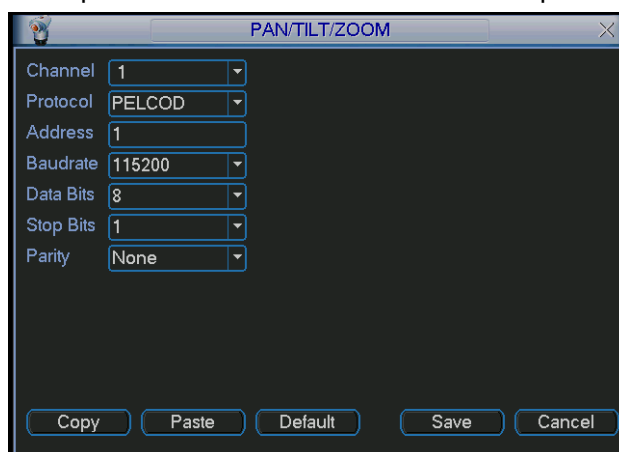
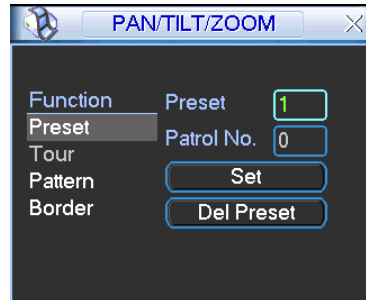
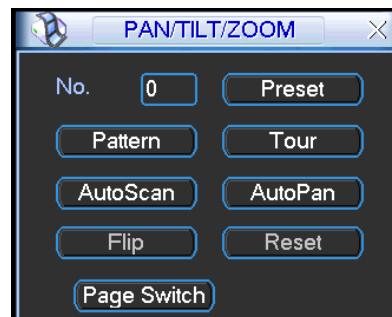

Figure 4-30
Figure 4-35
Figure 4-36
In the main menu, click setting, and then click Pan/Tilt Control button. The interface is shown as in Figure 4-30. Here you can set the following items:
In Figure 4-32, please click the “set” button. The interface is shown as below. See Figure 4-35. Here you can set the following items:
In Figure 4-32, click page switch button, the interface is shown as in Figure 4-36. Here you can activate the following functions:
- The following setups are usually operated in the Figure 4-32, Figure 4-35 and Figure 4-36 .
In Figure 4-35, click preset button and input preset number. The interface is shown as in Figure 4-37.
In Figure 4-36, please input preset number in the No. blank, and click preset button.
In Figure 4-35, click patrol button. The interface is shown as in Figure 4-38. Input preset number and add this preset to a patrol (tour). For each patrol (tour), you can input max 80 presets.
In Figure 4-35, input patrol (tour) number in the No. blank and click patrol button
In Figure 4-35, click pattern button and then click "begin" button. The interface is shown as in Figure 4-39. Then you can go to Figure 4-32 to modify zoom, focus, and iris.
In Figure 4-36, input mode value in the No. blank, and click pattern button.
In Figure 4-35, click border button. The interface is shown as in Figure 4-30.
In Figure 4-36, click “Auto Scan” button, the system begins auto scan. Correspondingly, the auto scan button becomes Stop button. Click stop button to terminate scan operation.
In Figure 4-36, click page switch button, you can see an interface is shown as below. See Figure 4-41. Here you can set auxiliary function. The aux value has relation ship with the Aux button of the decoder.